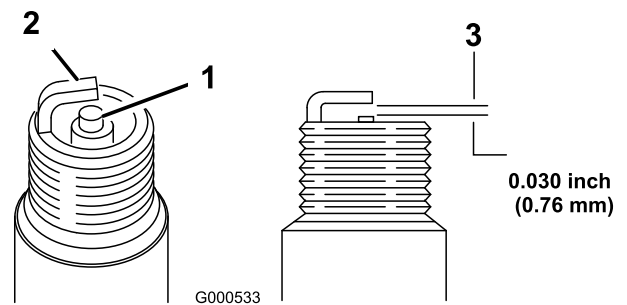

Figure 19
- Set the gap on the plug to 0.76 mm (0.030 inch) as shown in Figure 19.